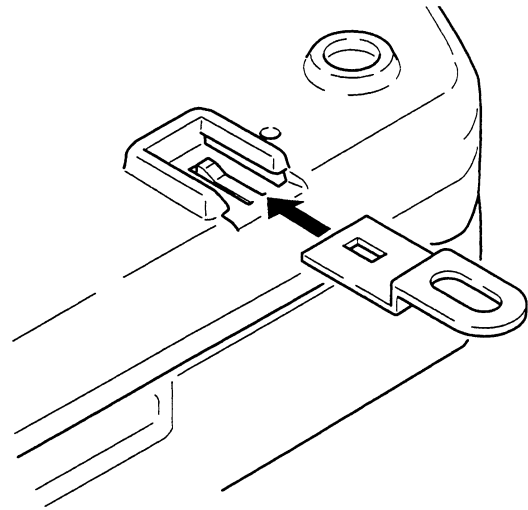

Figure 11: Mounting Bracket Installation
23. Install the four (4) mounting brackets to the underside of the "A" cartridge as shown in Figure 11.